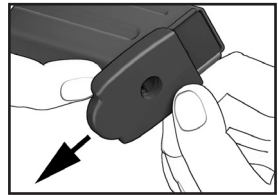

Figure 33
- Slowly slide the floorplate forward off of the magazine housing (see Figure 33).